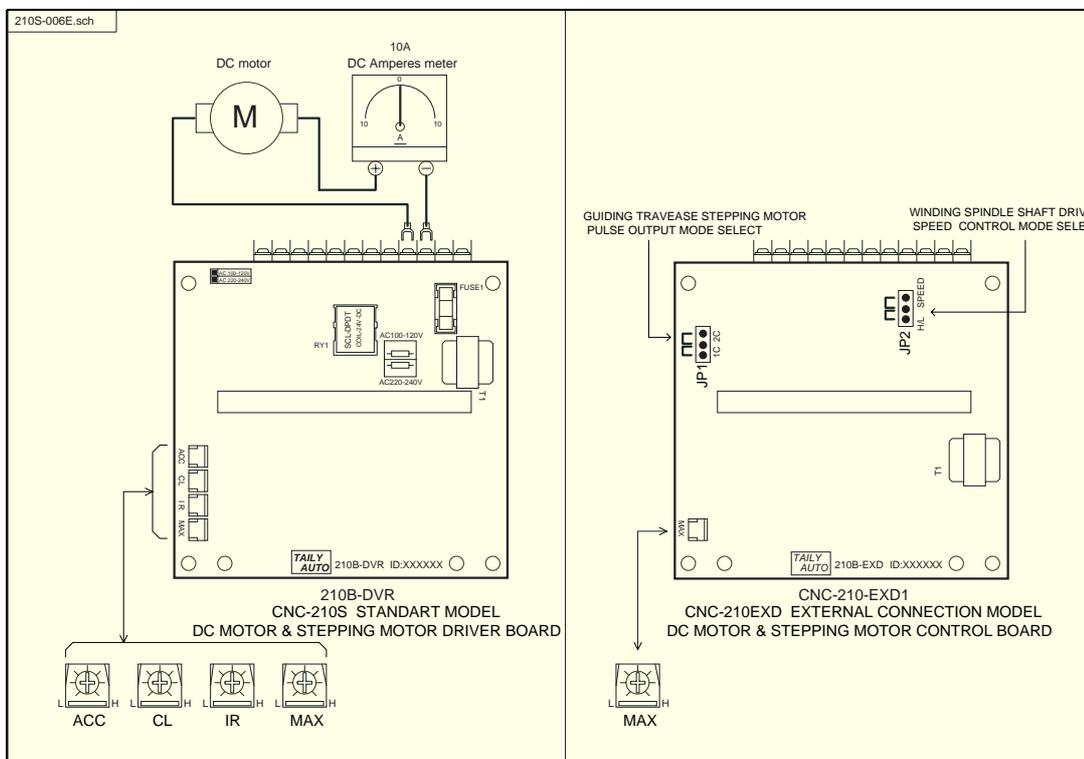

Figure-1
1. Locking the winding spindle shaft, to make it cannot move; connect a DC Amperes meter between terminal and DC motor. (See Figure-1).
### ◆ H/L-SPEED : Speed control mode. Select by JP2 (see Figure-1).
### ◆ 1C/2C : Pulse output mode. Select by JP1 (see Figure-1). 210EXD2 only.